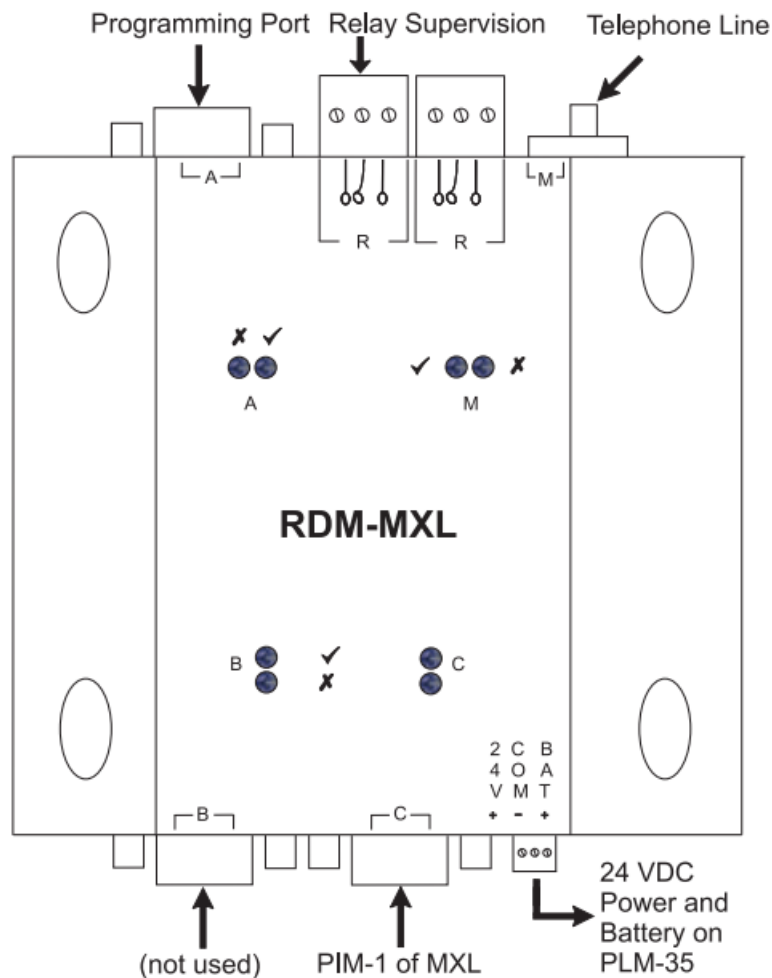

Figure 1
The Model RDM-MXL module (RDM for connection to the MXL PIM-1) from Siemens Industry, Inc., as shown in Figure 1, connects the MXL to a remote location via a telephone line. The module is designed to be installed and serviced by fully qualified field engineers.
7. Connect the 24V DC power source (CZM) to the supplied connector. The power connector is next to the RS-232 Port C (See Figure 1). Pin connections are written on the board and are as follows: